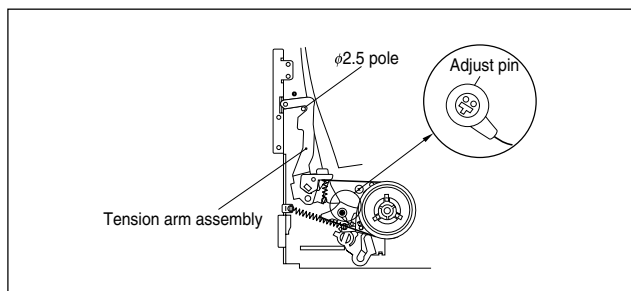

Fig. 2-5-5a
- 2) Set the VCR to the play back mode and turn the adjust pin using the flat-blade screwdriver, etc. by paying attention not to come into contact with the 2.5 mm dia. pole. (See Fig. 2-5-5a.)